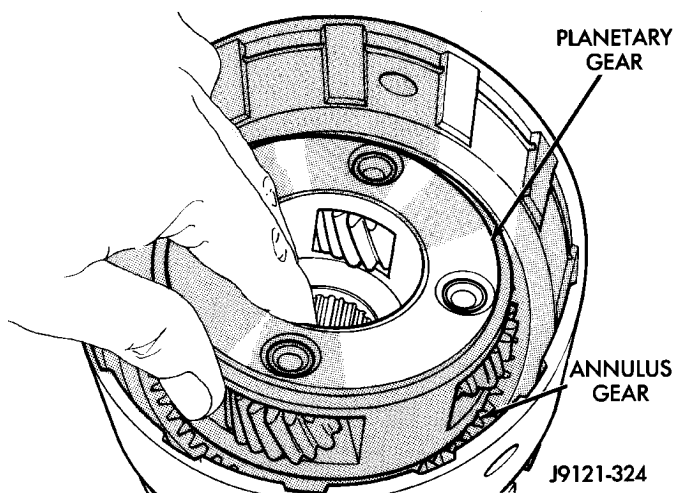

Fig. 220 Planetary Gear Installation
(11) Install planetary gear in annulus gear (Fig. 220). Be sure planetary pinions are fully seated in annulus gear before proceeding.